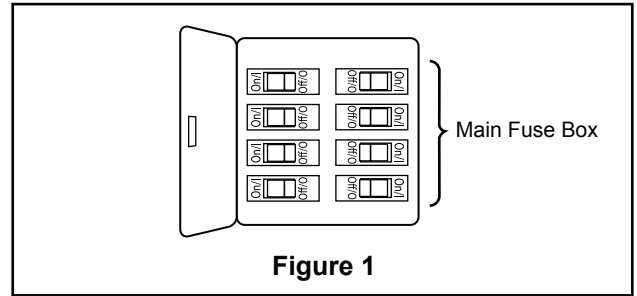

Figure 1
1. Remove one of the three screws in the support bracket of motor. Slightly loosen the remaining two screws. Assemble the switch housing to the support bracket using the two key slots in the switch housing. Replace the third screw and securely tighten all three screws. (Figure 1)
1. Restore electrical power to the outlet box by turning the electricity on at the main fuse box. (Figure 1)